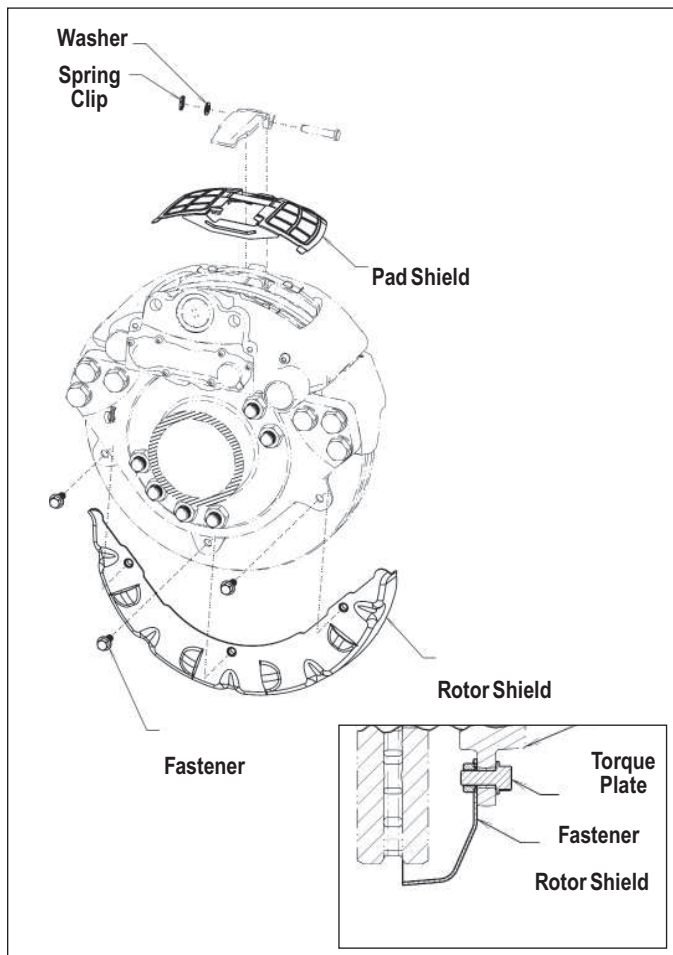

Figure 31 – Drive or Steer Axle Exploded View with Inset Showing Rotor Shield Installation
5.1.2 Remove and discard the spring clip and washer from the pad retainer pin. Remove and retain the retainer bar and retainer pin. Position the pad shield as shown and reinsert the retainer bar. Install the retainer pin. Use the included spring clip and washer to secure the retainer pin. Check that the pad shield is held securely in place by the retainer bar. See Figure 31 or 32.
5.1.3 Drive or Steer Axle Rotor Shields (See Figure 31). Position the rotor shield *between the torque plate and the rotor*. The supplied cap screws pass through the mounting tabs in the torque plate and install into the shield. Torque cap screws to 44 ft-lbs (528 in-lbs).